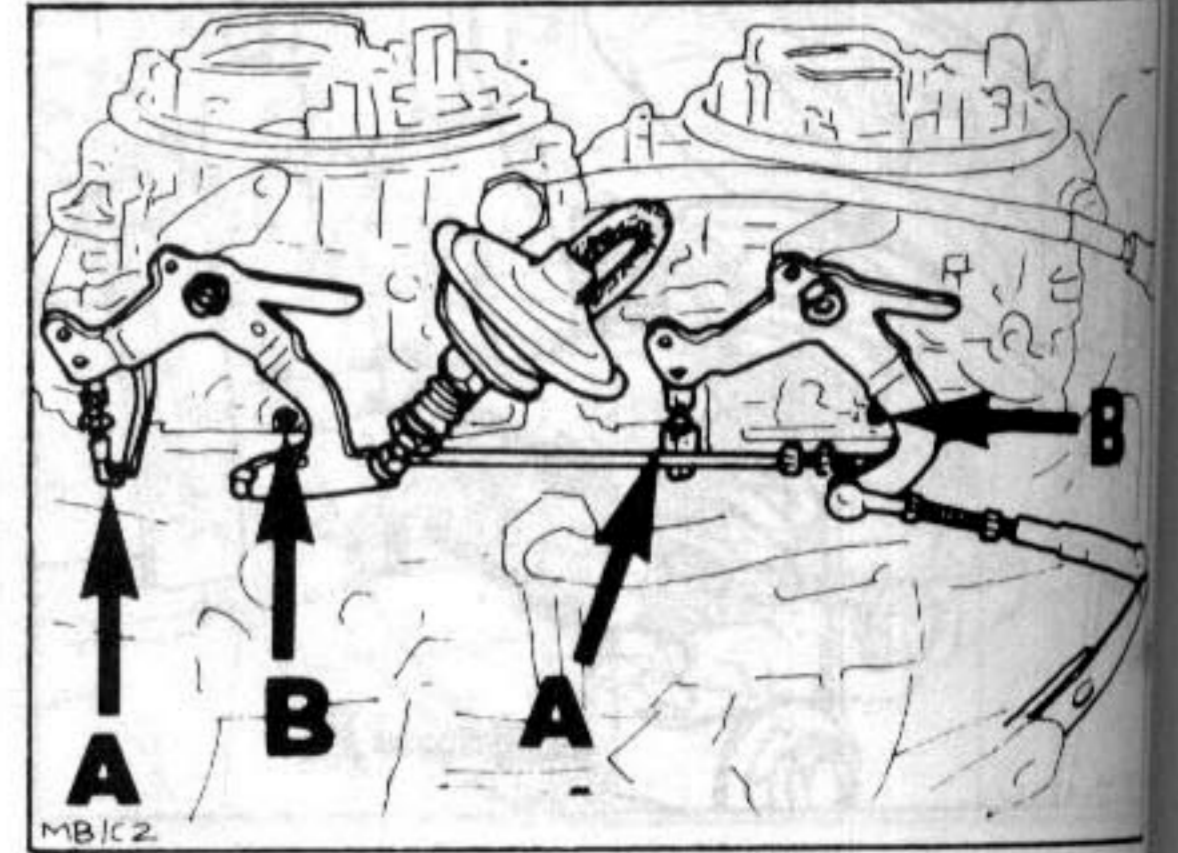

Fig. 3 Idle adjustment screws
- adjust by turning nuts (A) on connecting rods (Fig. 3).
- If idle speed is outside specified limits, adjust by turning nuts (A) on connecting rods (Fig. 3). Turn nuts at both connecting rods by equal amounts to maintain synchronisation.
- If outside specified limits, adjust by turning idle mixture control screw (B) at both carburettors (Fig. 3). Initially, set each screw to give maximum engine speed with optimum engine running.